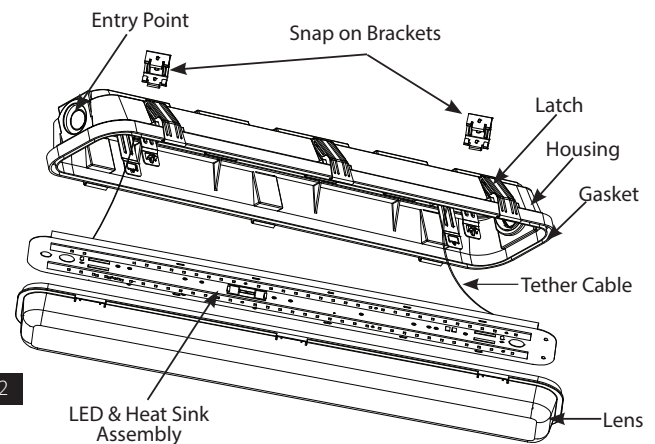

Fig: 2
3. Unlatch the **Lens** from **Housing** as shown in Fig. 2.
1. Release the **Latches** and unlatch the **Lens** from **Housing**. Snap out the **LED & Heat Sink Assembly** as shown in Fig. 2.